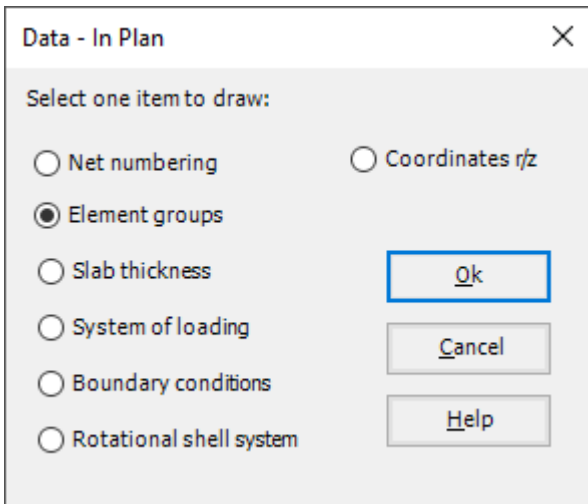

Figure 10.30 "Data – In Plan" option box
- Choose "Element groups" from "In Plan" command in "Data" menu. The following option box in Figure 10.30 appears